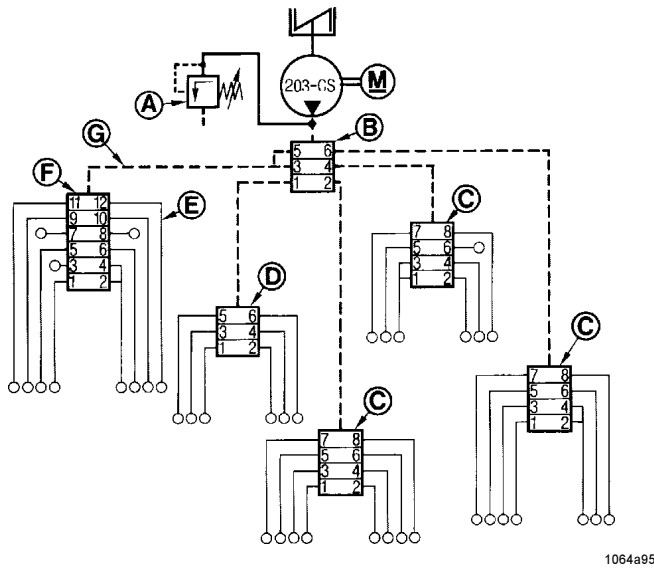

Fig. 31 - Example of a lubrication system
- Loosen all main line connections G one after the other from the main metering device (B, Fig. 31) leading to the secondary metering devices. If f. ex. grease or oil emerges under pressure from outlet 1 of main metering device B, the blockage will be found in the lubrication circuit of the secondary metering device D.